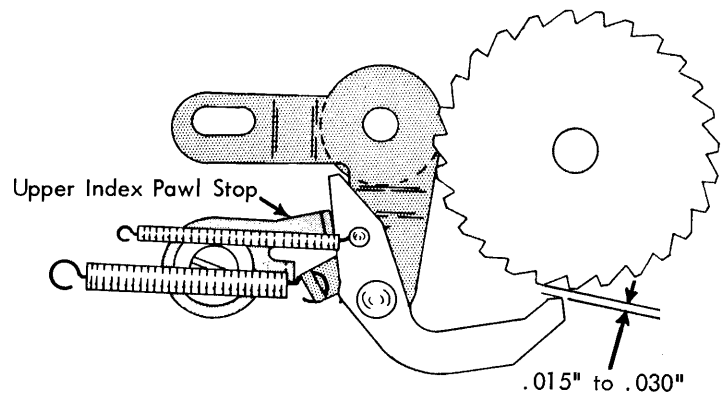

FIGURE 224. Upper Index Pawl Stop Adjustment
3. Upper Index Pawl Stop - With the index cam latched adjust the upper index pawl stop so that the index pawl clears the ratchet by .015" to .030" (Fig. 224).